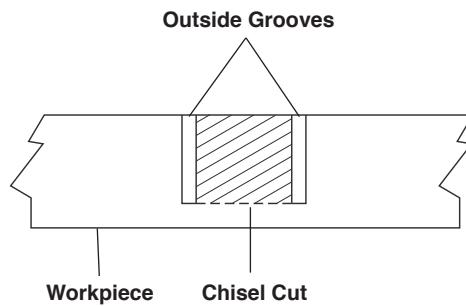

Figure 37. Rough Cut Groove
- 5. Use a wood chisel or make multiple passes by sliding the wood over to one side to remove the material between the outside grooves (Figure 37).